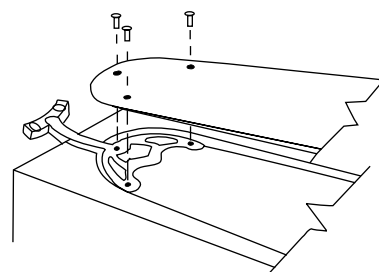
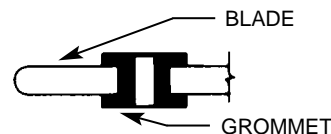

FIGURE 9
FIGURE 9A
A. Attach wood blades to blade brackets using three screws for each blade. See Figure 9. If your blades have large holes, you must first insert the rubber grommets into the holes. See Figure 9A.